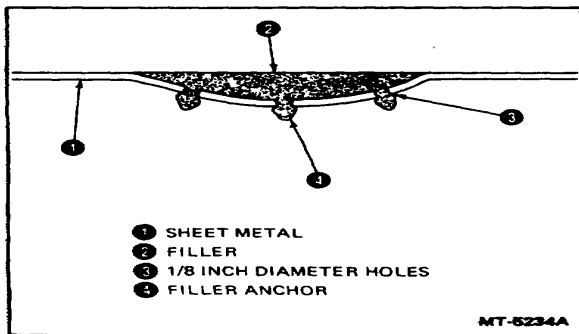

Figure 52 - Repairing Dents
- Drill or punch 1/8 inch holes in the dent to assure a good anchor for the filler (Figure 52).